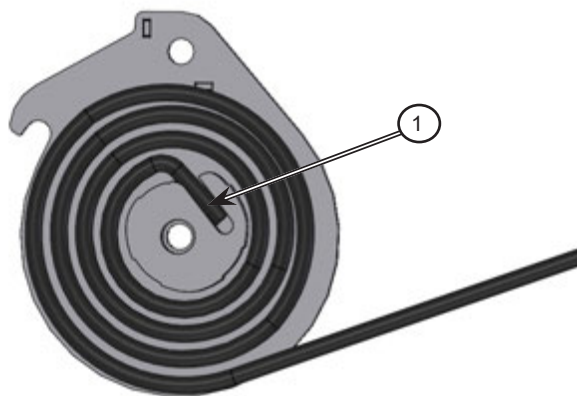

Figure 6.39: Place spring in holder and tabs
1. Place the curled end of the new spring into the spring holder (cover) plate; see *Figure 6.39*.
- a. Place the straight short end (1) of the spring into the slot of the holder.